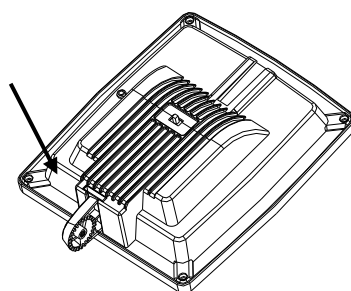

Fig. 2
2. Next, Part A can be attached to Part F (**Fig. 2**) or G (**Fig. 3**) by sliding the tapered end of the wedge into the groove at the bottom of the lamp or solar panel. **NOTE:** Push the part into the groove firmly so it does not easily slide out.